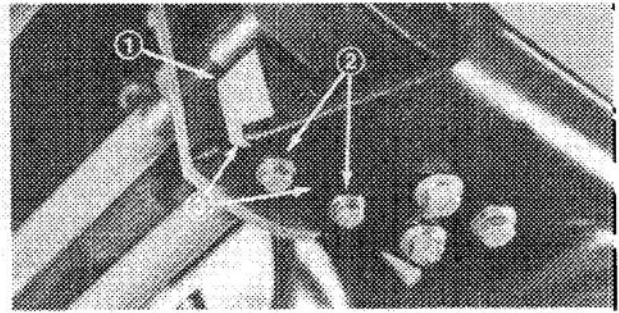

Figure 75
Note: If belt stretches, pivot block may be repositioned on bracket using additional set of mounting holes. Remove capscrews, lockwashers and flatwashers securing pivot block and shim to bracket. Relocate pivot block and shim to new holes and secure to bracket with fasteners (Fig. 75).
5. Remove two capscrews, and lockwashers securing bearing hub and shim to bracket (Fig. 75).
7. Install new belt around the PTO shaft pulley and engine pulley. Then secure pivot block with fasteners (Fig. 75).